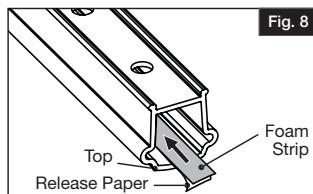

Fig. 8
- **DO NOT REMOVE THE RELEASE PAPER FROM ENTIRE STRIP!** ONLY remove 1" of the release paper from each end of the foam strip to expose adhesive (Fig. 8).